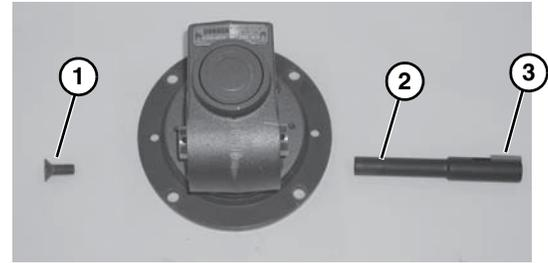

**Figure 20**
- Remove four screws (**Figure 20, item 1**). Detach motor (**Figure 20, item 2**) from gear reducer (**Figure 20, item 3**). Retain motor output shaft key (**Figure 20, item 4**).
- Remove two (2) screws (**Figure 20, item 5**) and detach output shaft cover (**Figure 20, item 6**).
- With key (**Figure 20, item 4**) in keyway, slide motor (**Figure 20, item 2**) and gear reducer (**Figure 20, item 3**) together. Install screws (**Figure 20, item 1**) and tighten.